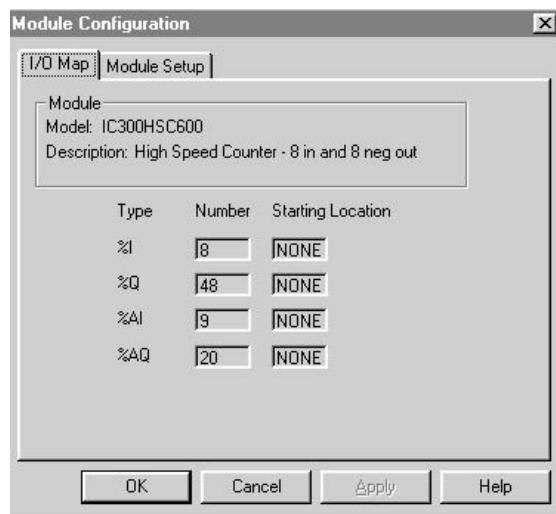

Figure 4.3 –I/O Map Tab
2. Select the **I/O Map** tab. The I/O Map shows the number of registers and the starting location of the registers. (See Figure 4.3.)